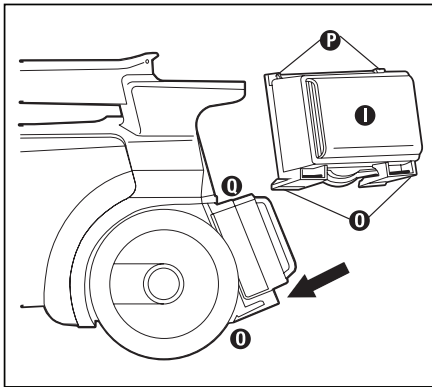

Fig. 14
**Step 1:** Insert upper filter corner tabs ③ firmly under rear housing tabs ④ (Fig. 14).
**Step 2:** Pivot filter ① down until bottom clips ② on filter click securely into place on the cleaner (Fig. 14).